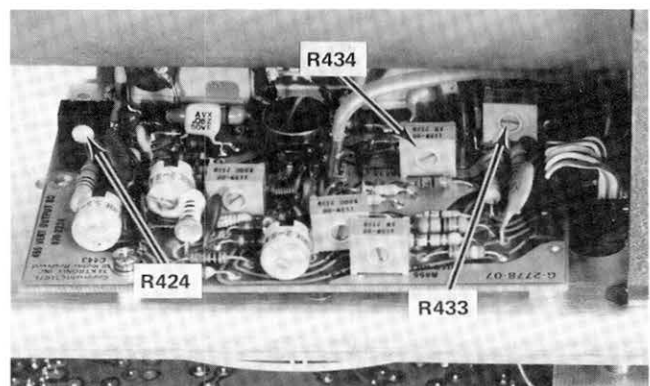

Fig. 5-18. Location of Vertical Output Low-Frequency Compensation adjustments.
g. ADJUST—R424 (see Fig. 5-18) for best flat-top waveform.
j. ADJUST—R434 (see Fig. 5-18) for best flat-top waveform.
m. ADJUST—R433 (see Fig. 5-18) for best flat-top waveform.